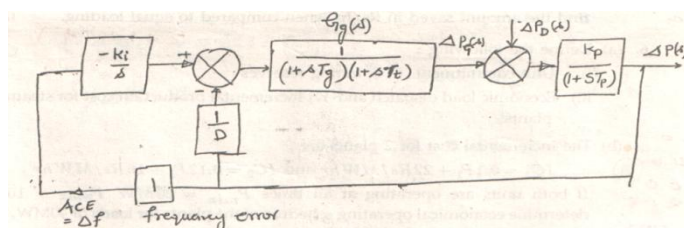

Fig.1
- [19] For the single area control system shown in Fig.1, we have following data:
- [13] A single line diagram for a typical 3 supply points A, B, & C is shown in Fig.1. Determine the reactive power compensation required to inject at point 'M' to reestablish original value when the voltage at 'M' falls by 6 kV (Assume 500 MVA Base and Neglect resistances)